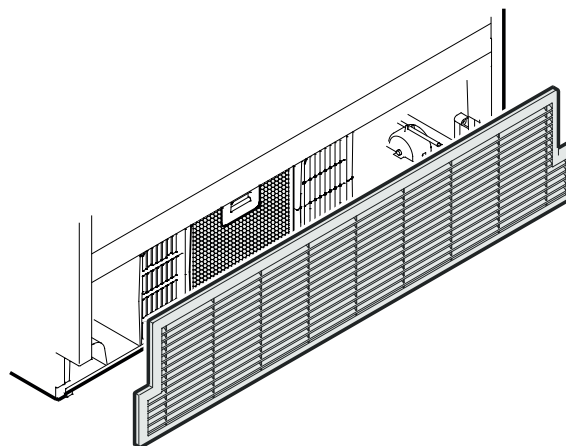

Figure 21
3. Mount the ventilation grille as shown in Figure 21.